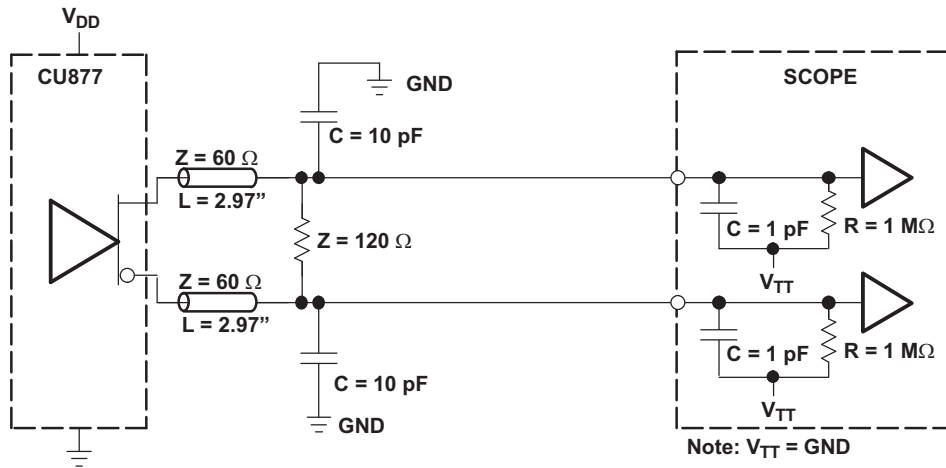
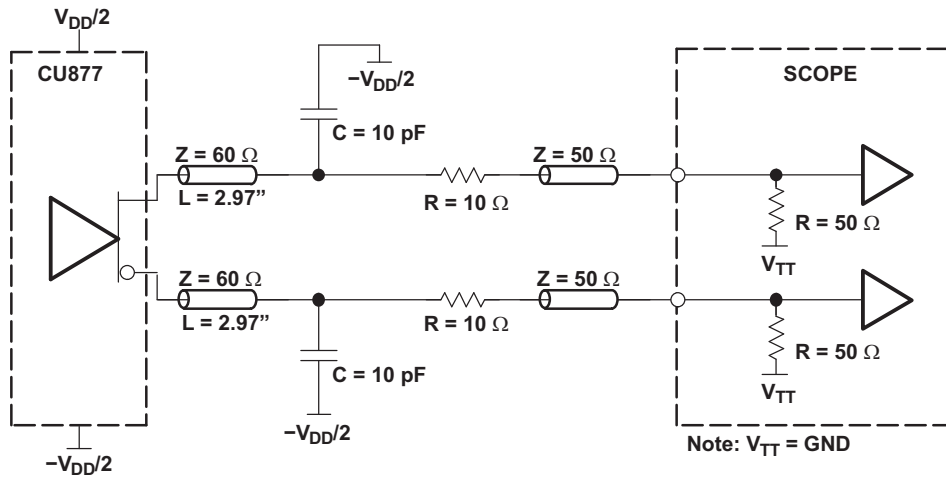

Figure 2. Output Load Test Circuit 1
Figure 3. Output Load Test Circuit 2
- (1) There are two different terminations that are used with the following tests. The load/board in Figure 2 is used to measure the input and output differential-pair cross voltage only. The load/board in Figure 3 is used to measure all other tests. For consistency, equal length cables must be used.
- (2) This parameter is specified by design and characterization.
- (3) Phase static offset time does not include jitter.
- (4) Period jitter, half-period jitter specifications are separate specifications that must be met independently of each other.
- (5) The output slew rate is determined from the IBIS model with a 120-Ω load only.
- (6) To eliminate the impact of input slew rates on static phase offset, the input skew rates of reference clock input CK and \bar{CK} and feedback clock inputs FBIN and \bar{FBIN} are recommended to be nearly equal. The 2.5-V/ns skew rates are shown as a recommended target. Compliance with these typical values is not mandatory if it can adequately shown that alternative characteristics meet the requirements of the registered DDR2 DIMM application.
- (7) Output differential-pair cross voltage specified at the DRAM clock input or the test load.
- (8) V_{OX} of CDCU877A is on average 30 mV lower than that of CDCU877 for the same application.